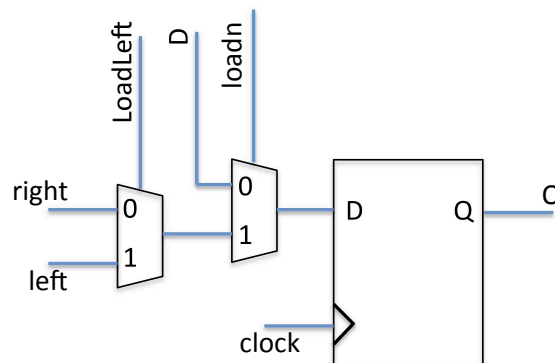
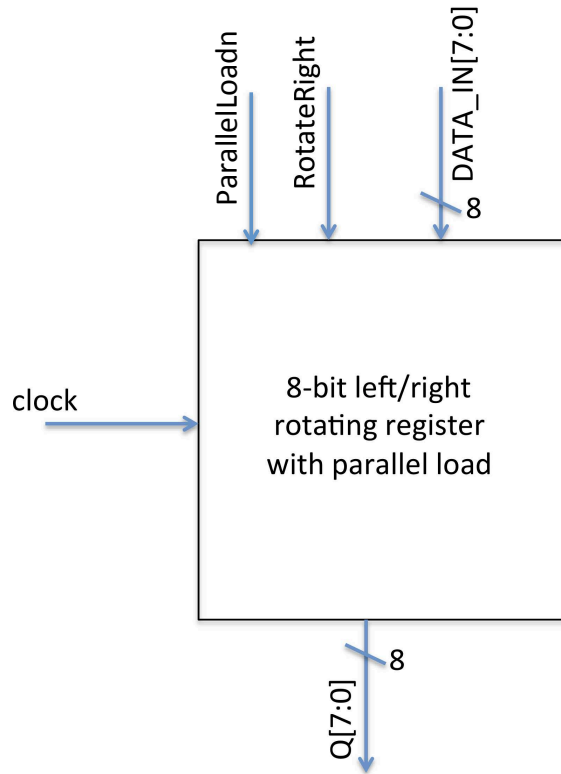

Figure 2. Sub-circuit for Part II.
Figure 3. Overall circuit for Part II.
Figure 2 shows a positive-edge-triggered flip-flop with several multiplexers. In this part of the lab, you will use eight instances of the circuit in Figure 2 to design a left/right 8-bit rotating register with parallel load. The *LoadLeft* input of all eight instances of the circuit in Figure 2 should be tied to a single rotating register input *RotateRight*. The *loadn* input of all eight instances should be tied to a single rotating register input *ParallelLoadn*. The *clock* input of all eight instances should be tied to a single rotating register input *clock*. Create an 8-bit-wide rotating register input *DATA_IN*, whose individual wires $DATA_IN_7 \dots DATA_IN_0$ are tied to the *D* input of each instance of the circuit in Figure 2. Likewise, create an 8-bit-wide rotating register output *Q*, whose individual wires $Q_7 \dots Q_0$ are tied to the *Q* output of each instance of the circuit in Figure 2.
The remaining connections between the eight instances of the circuit in Figure 2 should realize the following behaviour. When *ParallelLoadn* is a logic-0, the value on *DATA_IN* is stored in the flip-flops on the next positive clock edge (i.e. parallel load behaviour).
Figure 3 shows the inputs and outputs of the overall left/right rotating register circuit with parallel load, which will contain eight instances of the circuit in Figure 2.
1. Draw a schematic for the 8-bit rotating register with parallel load. Your schematic should contain eight instances of the circuit in Figure 2. Paste the schematic into your lab book. Label the signals on your schematic.
3. Write a Verilog module for the circuit in Figure 2.
4. Write a Verilog module for the rotating register with parallel load that instantiates eight instances of your Verilog module for Figure 2. This Verilog module should match with the schematic in your lab book. Use SW_{7-0} as the inputs $DATA_IN_{7-0}$. Use SW_8 as the *RotateRight* input and SW_9 as the *ParallelLoadn* input. Use KEY_0 as the clock. The outputs Q should be displayed on the red LEDs ($LEDR_{7-0}$).